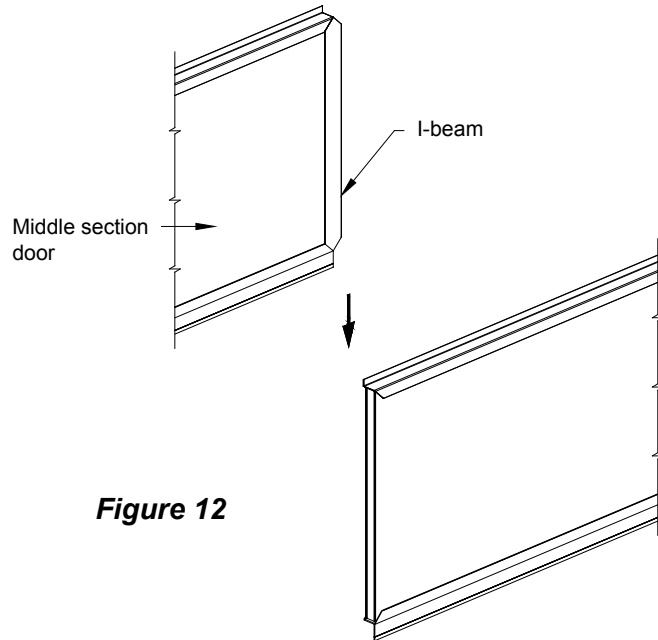

Figure 12
11) With the installed door(s) in the open position, slide doors together from the top, as shown in **Figure 12**. The I-Beam can be spread apart to fit around the other door. **IMPORTANT** - It is necessary to position doors in the open position while sliding them together, and in the closed position for attachment to the frame. Placing the doors in the open position allows for viewing on both sides of the door to verify I-Beam enclosed mating door. Close the doors and fasten in place with screws every 3½" *not too tight*, along indented line in rigid hinge piece. **Important** - Placing the door in its closed position for attachment it to the frame will ensure proper seating on the level 2x4 and with the other doors. Attach lift line to lift bracket, using the Azuma nut, to hold the door in the open position.